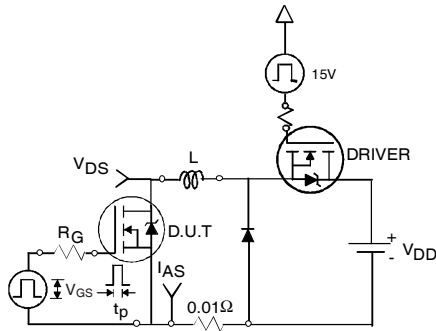

Fig 12a. Unclamped Inductive Test Circuit
- ③ Pulse width $\leq 1.0ms$; duty cycle $\leq 2\%$.
- ④ $C_{oss\ eff.}$ is a fixed capacitance that gives the same charging time as C_{oss} while V_{DS} is rising from 0 to 80% V_{DSS} .
- ⑤ Limited by T_{Jmax} , see Fig.12a, 12b, 15, 16 for typical repetitive avalanche performance.
- ⑥ This value determined from sample failure population. 100% tested to this value in production.
- ⑦ When mounted on 1 inch square copper board.
- ⑧ When mounted on FR-4 board using minimum recommended footprint.
3. Equation below based on circuit and waveforms shown in Figures 12a, 12b.